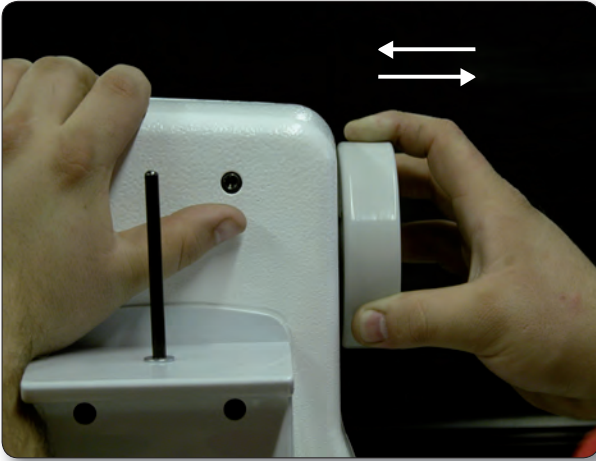

Figure 4.1
1. Check the arm-shaft by pushing and pulling on the hand wheel. (Figure 4.1) Note: A small amount of main shaft axial play is permissible. Too much main shaft play, however, may cause noise and or stitching issues.